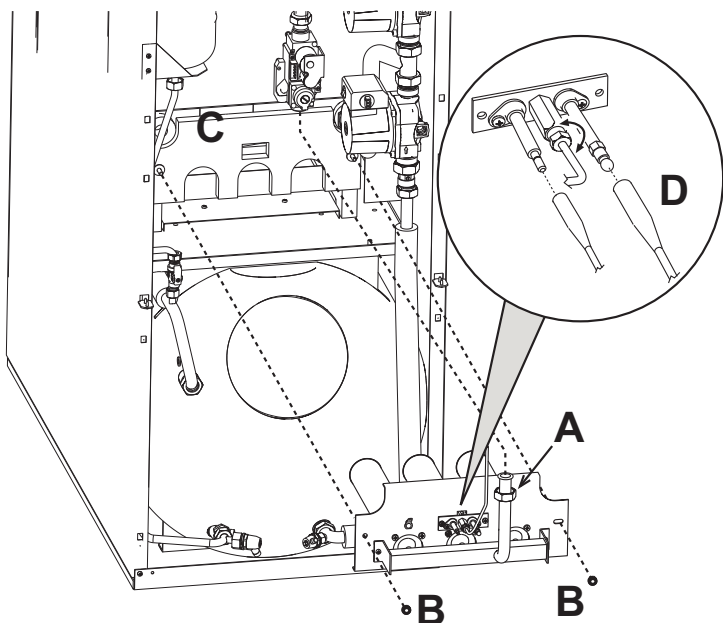

fig. 22 - Removing the burners
- Undo the two nuts "B" fixing the combustion chamber door to the cast iron elements of the boiler (fig. 22)